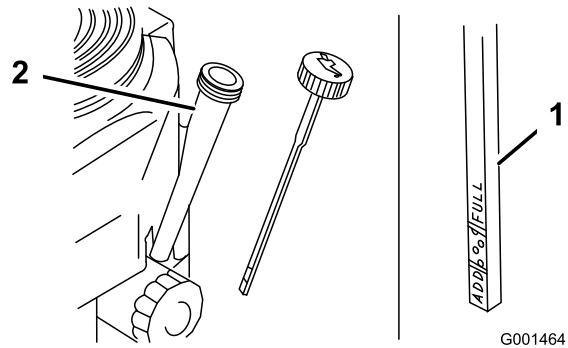

Figure 26
- Unscrew the oil dipstick and wipe the end clean (Figure 26).
- Slide the oil dipstick fully into the filler tube, but do not thread onto tube (Figure 26).
- Clean around the oil dipstick (Figure 26) so that dirt cannot fall into the filler hole and damage the engine.
9. Slowly pour approximately 80% of the specified oil into the filler tube (Figure 26).